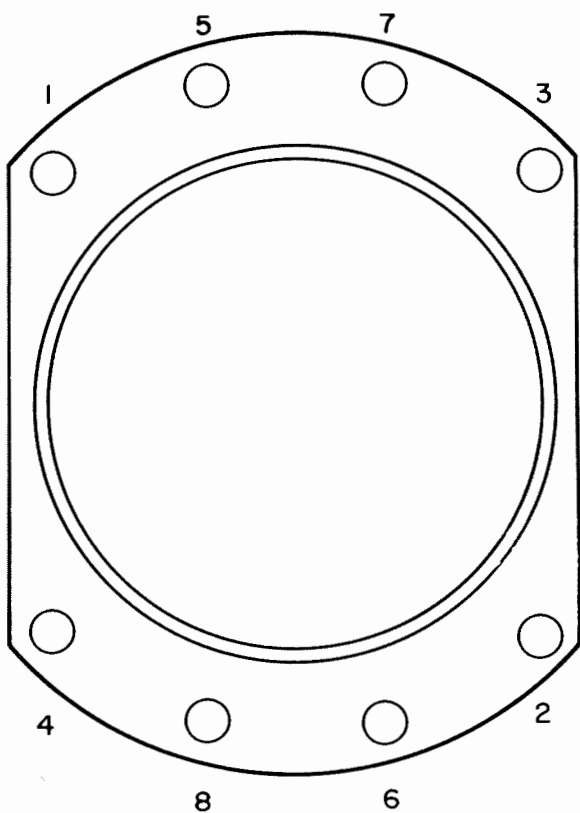

Figure 8-6. Cylinder Flange Torque Sequence.
h. Tighten flanged nuts according to sequence in figure 8-6.